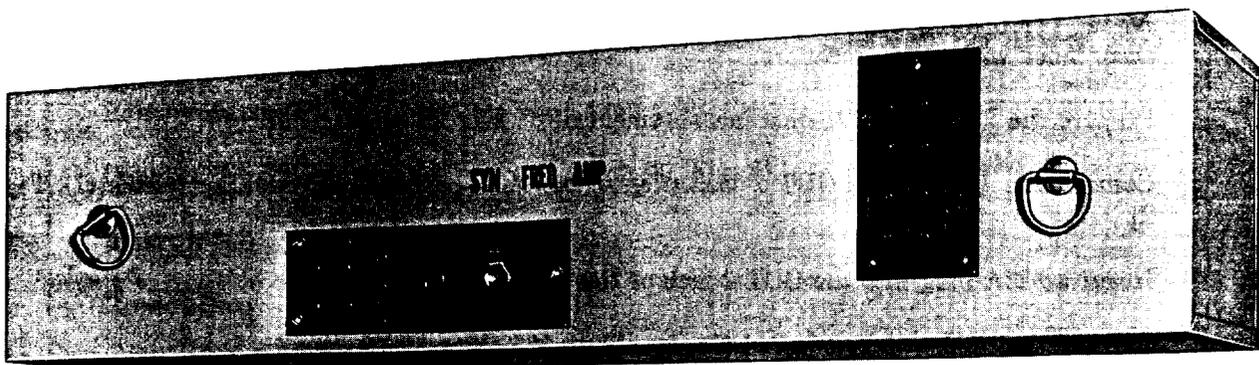
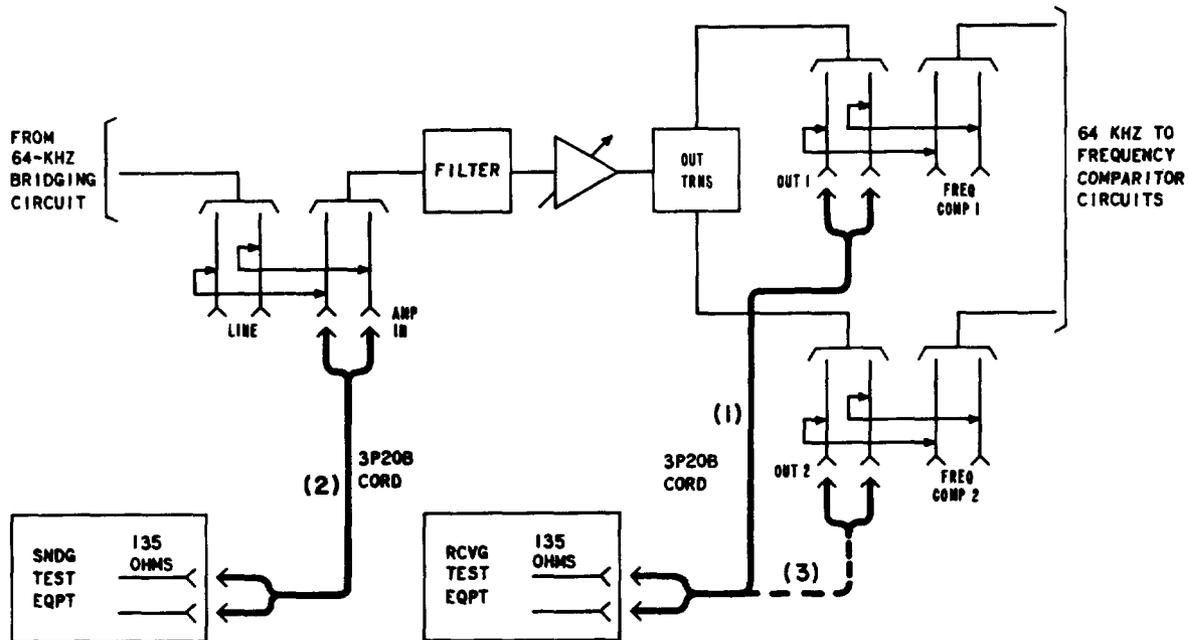

Fig. 1—64-kHz Synchronizing Frequency Amplifier—Front View
Fig. 2—64-kHz Synchronizing Frequency Amplifier—Gain Measurement
Chart 1 is a test procedure for measuring the gain of the 64-kHz synchronizing frequency amplifier (Fig. 1). The maximum output power of the amplifier is measured at the OUT jacks when an external 64-kHz signal at 0 dBm is applied to the input through the AMP IN jacks. Upon conclusion of this test, the test in Chart 2 must be performed in order to set the proper operating level of the amplifier when the regular 64-kHz pilot signal is connected. The test in Chart 2 can be performed by itself unless the test requirements cannot be met. However, the test in Chart 1 must be followed by the test in Chart 2.
<p>Note: Performing this test will activate a pilot loss alarm which should be silenced in accordance with local procedure.</p> <p>1 Prepare the RTE for a 135-ohm measurement of 64 kHz at +74.0 dBm.</p> <p>2 Connect the RTE to the OUT 1 jack (Fig. 1) of the synchronizing amplifier [patch (1), Fig. 2].</p> <p>3 Insert a 323A plug into the OUT 2 jack of the synchronizing amplifier.</p> <p>4 Prepare the STE to deliver a 64-kHz signal into 135 ohms at 0.0 dBm.</p> <p>5 Connect the STE to the AMP IN jack of the synchronizing amplifier [patch (2), Fig. 2].</p> <p>6 Rotate the amplifier GAIN control to the maximum clockwise position.</p> <p>7 Read the RTE meter.</p> <p>Requirement: $-0.1 \text{ dBm} \pm 4.0 \text{ dB}$ (when measured through a 74-dB attenuator)</p>
9	Remove patch (1), Fig. 2 and the 323A plug from the OUT 2 jack.
10	Connect the RTE to the OUT 2 jack [patch (3), Fig. 2].